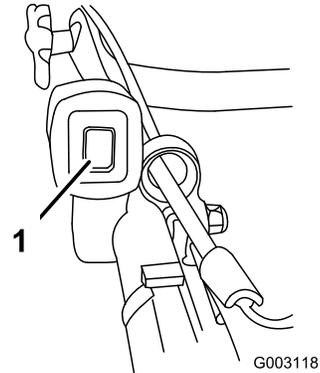

Figure 14
1. Push the ignition toggle switch to the On (“I”) position (Figure 14).